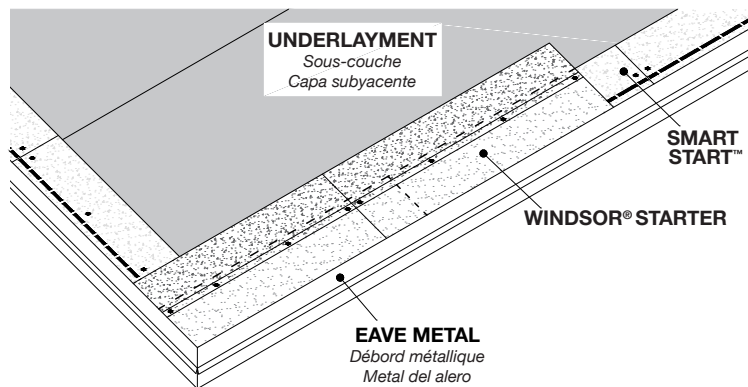

Figure 5 - Application of Windsor® Starter Shingles over Smart Start™ at the Eave
Fasten with four (4) nails in-between the paint lines, approximately 1" (25 mm) from each side of the starter and the remaining two (2) evenly spaced on the same line. Continue across the roof, butting the shingles loosely together to prevent buckling, and fasten in place. (See Figure 5)